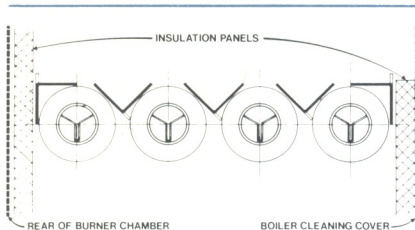

Fig. 6. Position of Baffles on header.
4. A set of three angled steel baffles lie along the tops of the finned heat exchanger tubes. These baffles are secured in position at our factory but, before fixing the boiler, check that they are correctly positioned as Fig. 6.